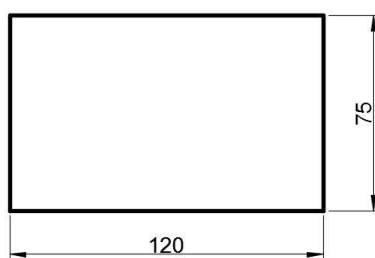

Fig 1
1. Select the thickness of 2mm mild steel sheet and using scribe and steel ruler mark the required dimensions as per given fig 1.